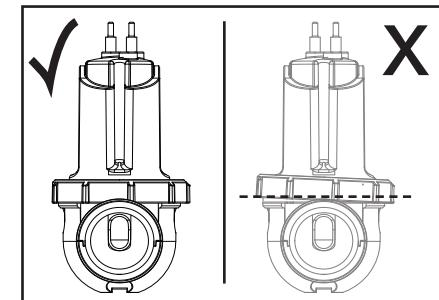

Figure 15. Locking Ring Level
**NOTE** Ensure the locking ring is level when engaging the threading clamp (see Figure 15).